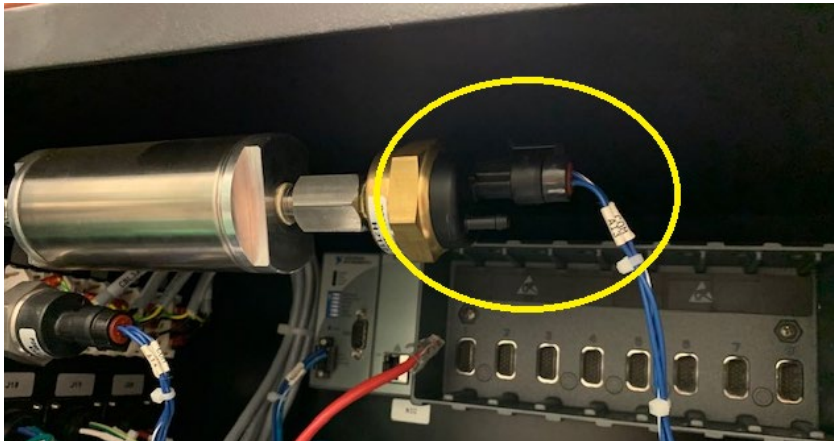

Figure 2
7. Disconnect the crankcase vacuum sensor to allow more space to work, and to prevent damage to the wiring harness (**See Figure 2**).